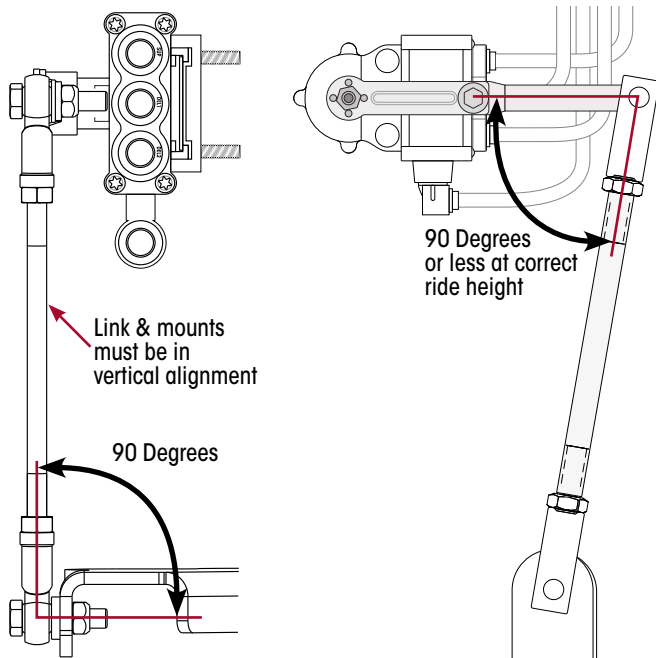

Figure 8: Check Link Mounting and Alignment
- Check the linkage for interference and installed angle at ride height. Refer Figure 8.